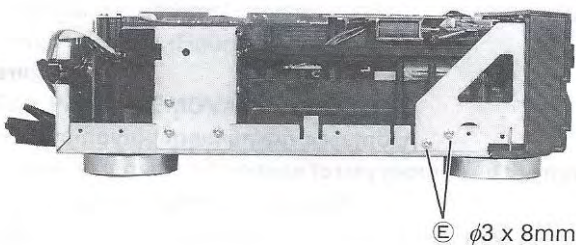

Figure 4
4. Remove four screws (E) and (F) from side boards. (Figures 4 and 5)